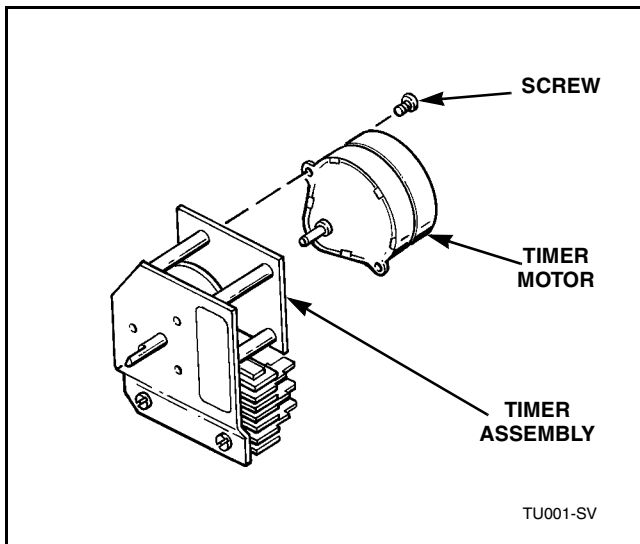

Figure 4
- Remove screws holding timer motor to mounting bracket, *Figure 4*.